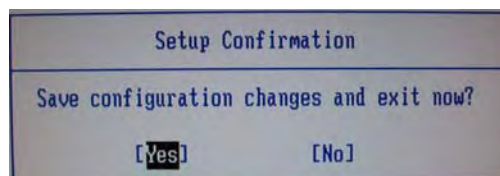

Figure 1-18. BIOS save Setup
- Press **F10** to save and exit the BIOS. The "Setup Confirmation" popup window displays "Save configuration changes and exit now?" The **[Yes]** option should be highlighted (Figure 1-18).
- Insert the first CD with the Ghost image for the Drive Duplicator Phase II, "PARS IMS 4.0.1 P&DC, PARS Phase II Drive Duplicator Installation Kit (CD): Version XP, (Build: N/A), P/N 66.6015.091-01.ODT Volume 1 of 2" **Error! Reference source not found.**